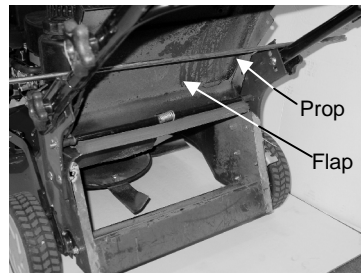

Figure 9. Blade change
Blades - refer figure 9.
Blade Change- refer figures 9 and 10.
- With the engine stopped, spark plug lead and grass catcher or mulch plug removed, open the discharge flap and prop in the open position. Refer to figure 9.